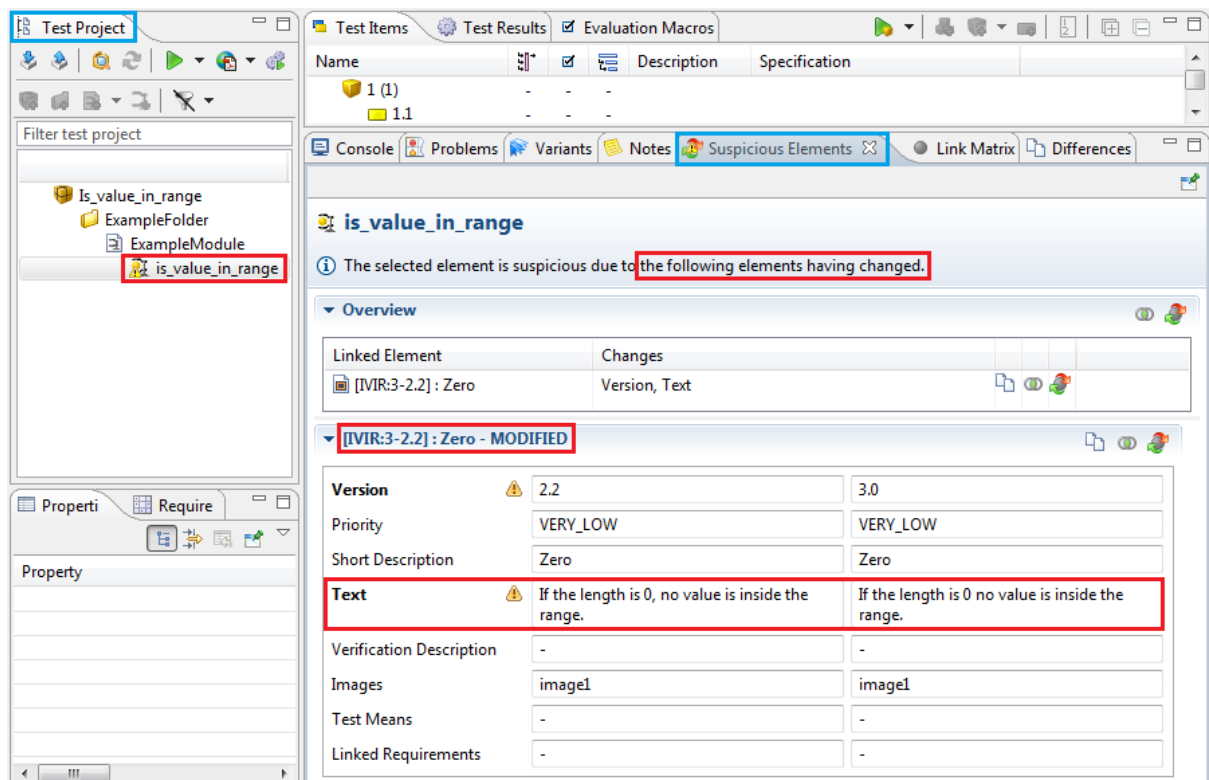

Figure 6.119: Suspicious test object and linked modified requirements
- The Suspicious Elements view will display the changed requirements (see figure 6.119).
As you can see in figure 6.119 above, the requirement text of the requirement “[IVIR:3-2.2]:Zero” has been edited. Therefore it has the addition “MODIFIED”.